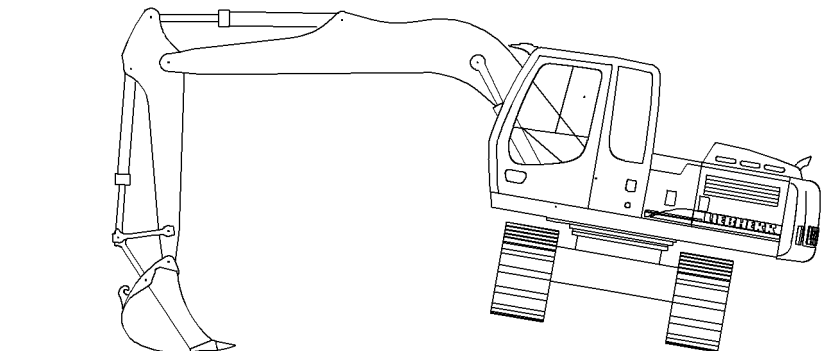

Fig. 5-65 Raising the machine
- ▶ By using the work equipment to support the machine at the side, one side of the undercarriage can be raised to clean the travel gear (siehe Fig. 5-65).